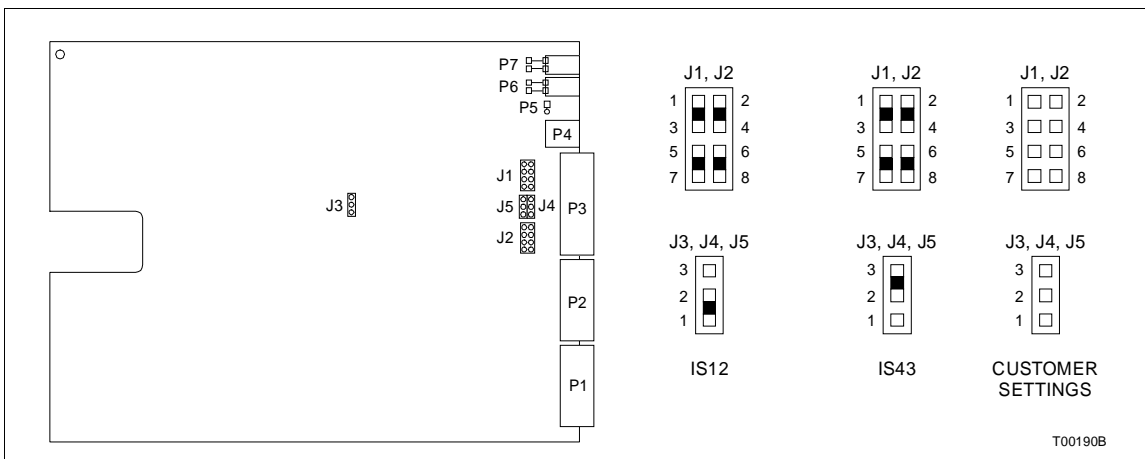

Figure PR66-3. Operator I/O Controller
- 6. Verify that the jumpers are set as shown in Figure PR66-3.